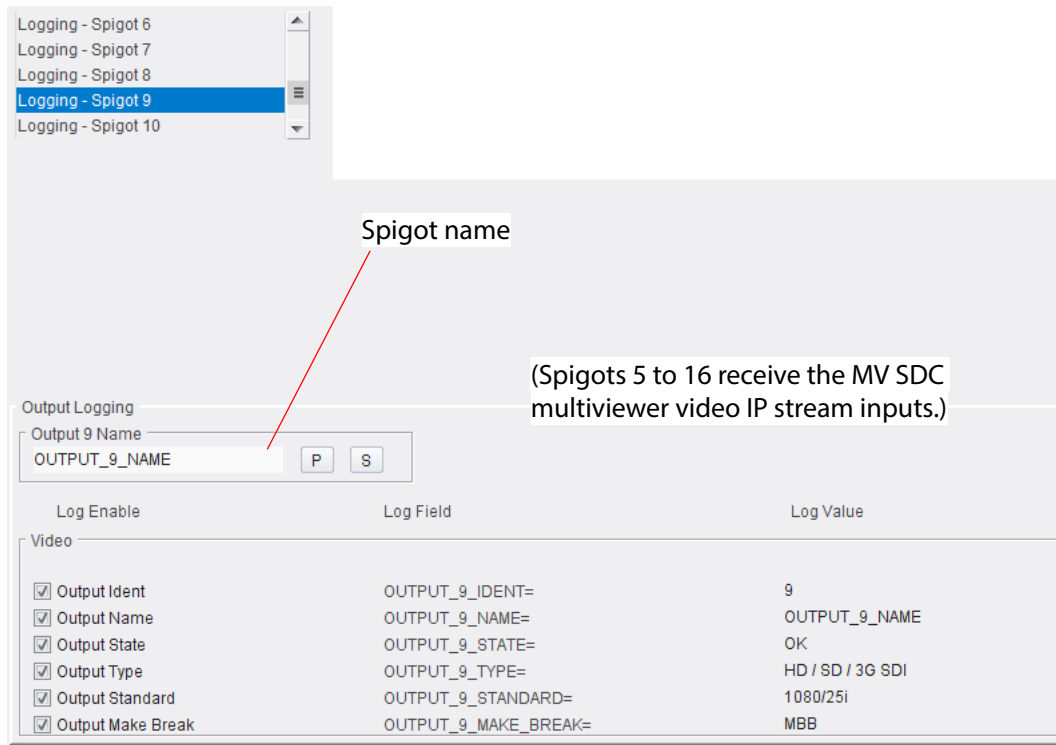

Fig. 4-53: Logging Spigot Template - Destination Spigots 5 to 16
- an IP destination spigot ("Output N ...", see Figure 4-53).